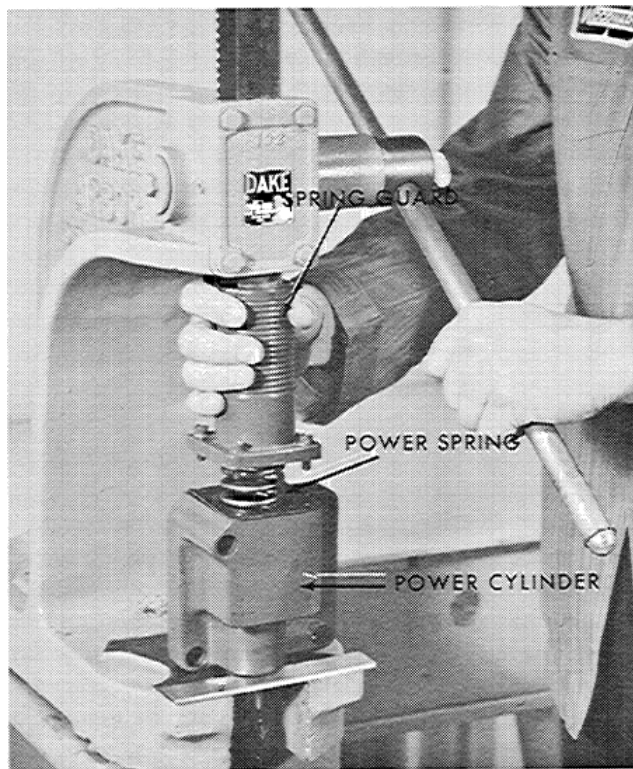

Figure 3-1. Removing Spring Guard
2. On spring-loaded power cylinders, position the power cylinder in an arbor press and hold the spring guard down against the force of the spring while removing screw and washers (Figure 3-1).